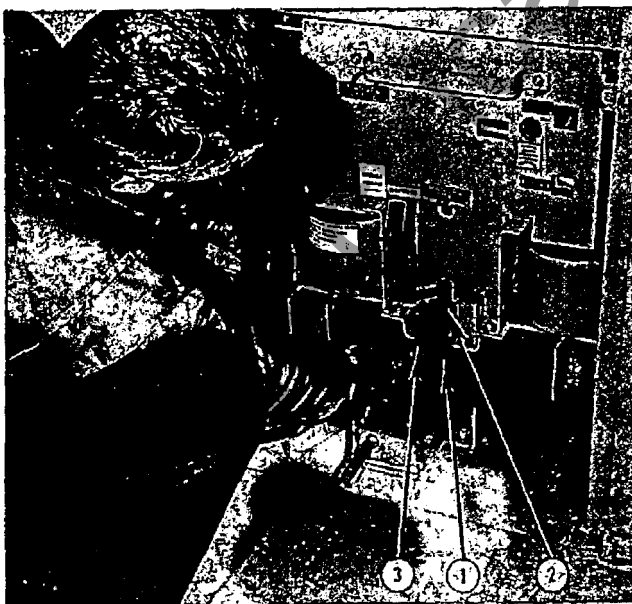

Figure 6 - ACB READY FOR RACK-IN. Ring
Figure 9 - READYING ACB FOR RELEASE FROM TEST POSITION. Ring (3) is pulled forward allowing rack-in mechanism rod (2) to be raised one notch to rack-in position. (As shown in figure 6).
Figure 10 - ACB IN FULL CONNECT POSITION. ACB may be racked out and locked in test position per figure 7. ACB may be removed from cubicle by reverse procedure as in figure 6 and rod as shown on figure 4.
Figure 6 - Closing latch (13) has been released freeing latch roll (19) and allowing springs to drive links (9) and (10) forward as a unit. Latch roll (19) forces toggle roll (15) forward with latch roll (14) held by trip latch (27) the breaker will close.